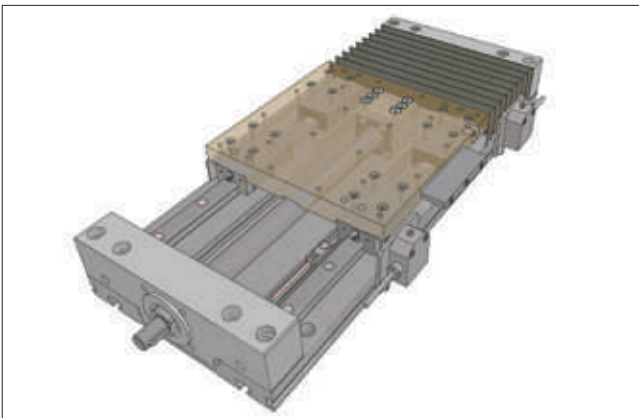

Figure 5.9 ___ AXLT with switches
- Optional inside placed inductive switches (Figure 5.9)